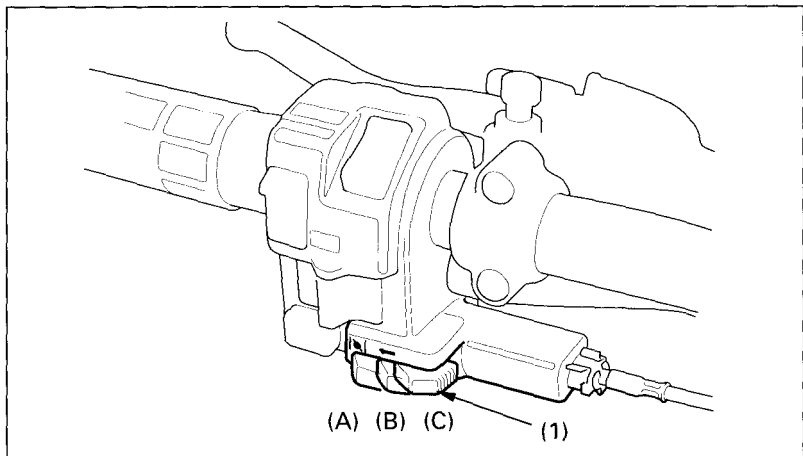

Fig. 3-9
3. After the engine has warmed up, move the choke lever (Fig.3-9) right to the fully OFF. (C)